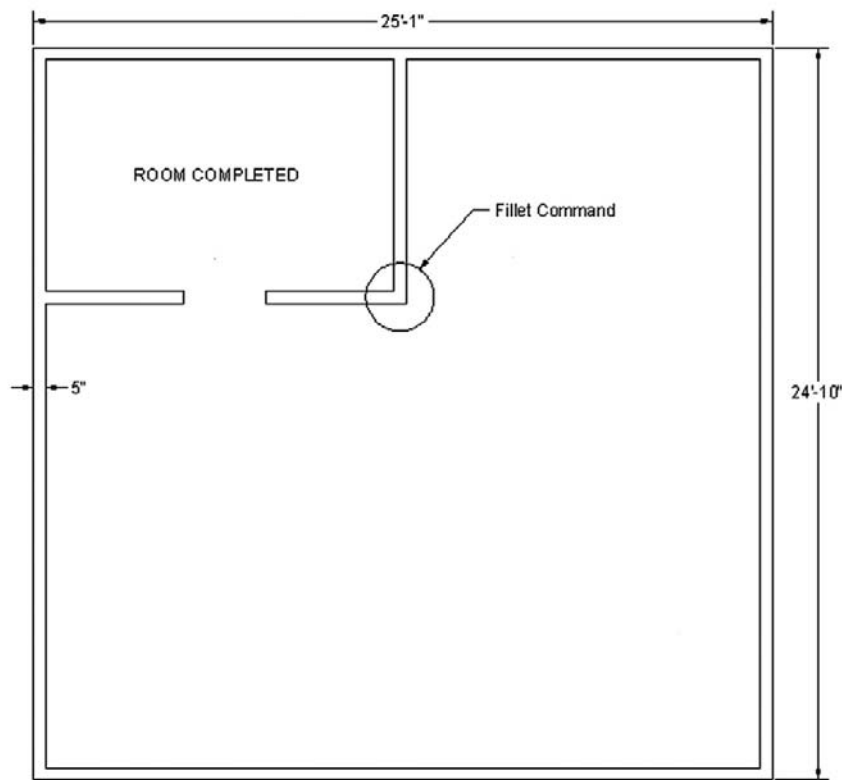

FIGURE 3.15
11. Trim out the extra line where each inner wall meets the main wall. Figure 3.15 shows you what you should see so far (be sure to ask your instructor if something is not working out).